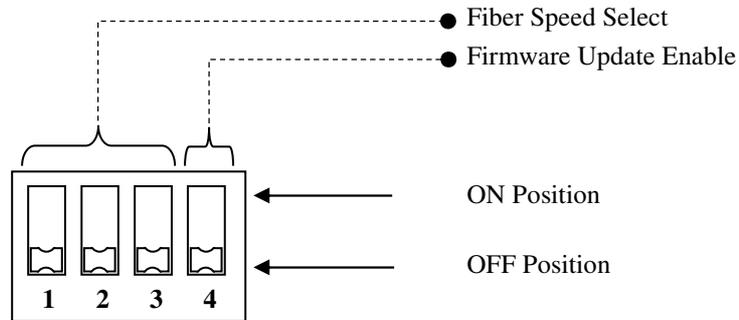

FIGURE 10: OSD2244V 4-WAY DIP SWITCH
- Toggle switch 4 to 'on' position (see Figure 10) before unit is powered on.